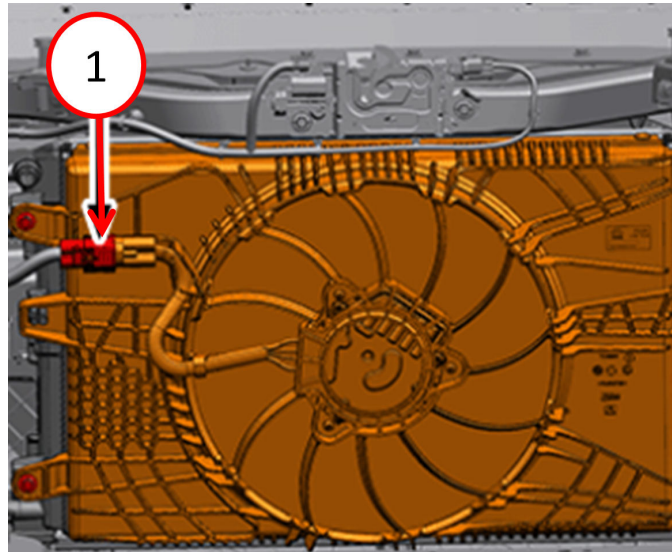

Fig. 1
4. Disconnect the cooling fan wire harness connector Fig. 1.**
22. **Connect the cooling fan wire harness connector Fig. 1.